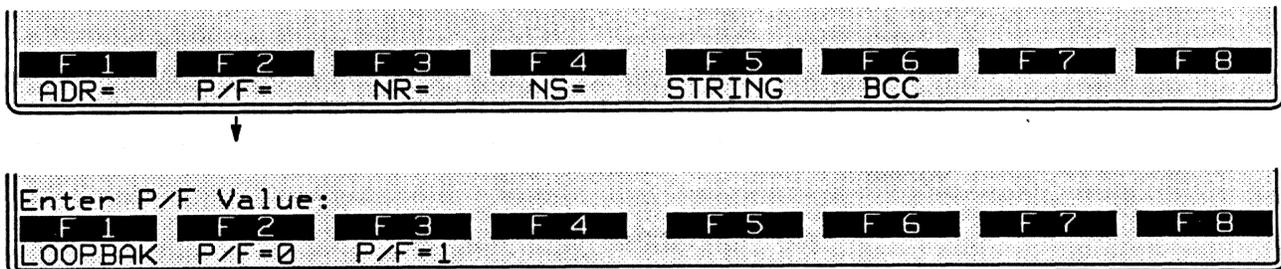

Figure 35-22 A P/F value is optional in all SEND entries.
6. *Poll/final bit.* The P/F bit is an optional entry in all SEND actions. A P/F value of LOOPBAK, 0, or 1 are entered by the softkeys in Figure 35-22. If P/F= LOOPBACK, the bit will echo the last P/F bit received. (Looping the P/F bit is appropriate for UAs and supervisory frames.)